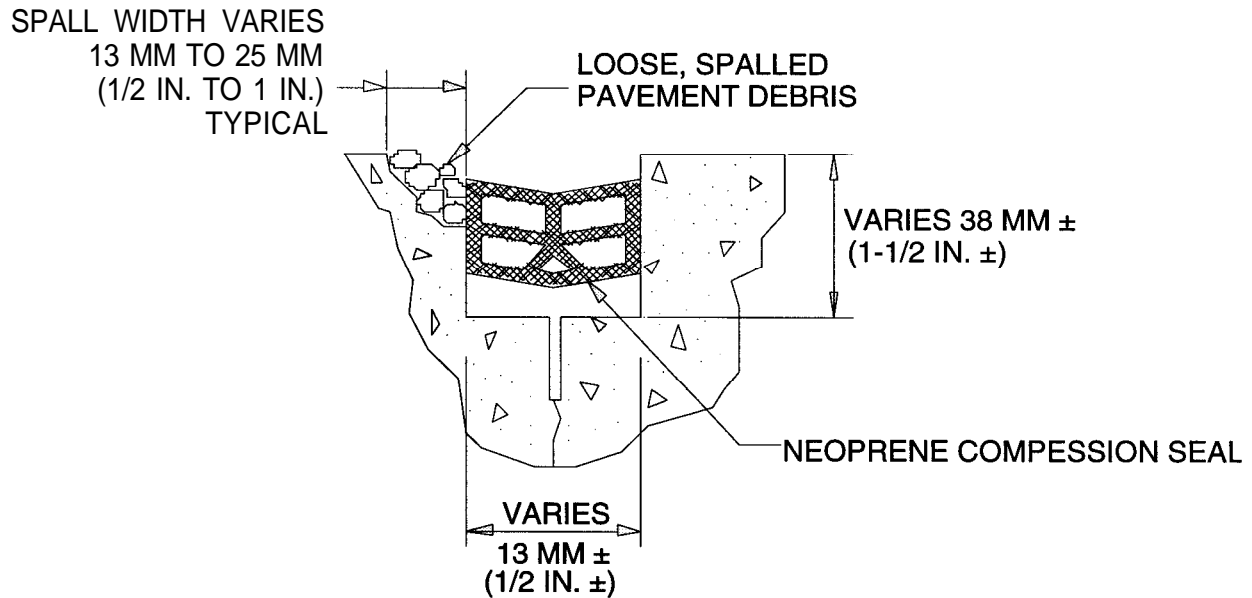

Figure 2a. Existing NCS Random Spall Area
**3.1.2. Compression Seal In Place (Figures 2a and 2b).**